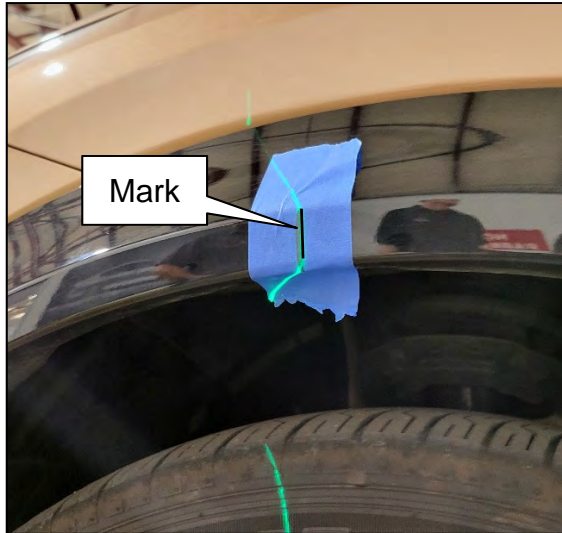
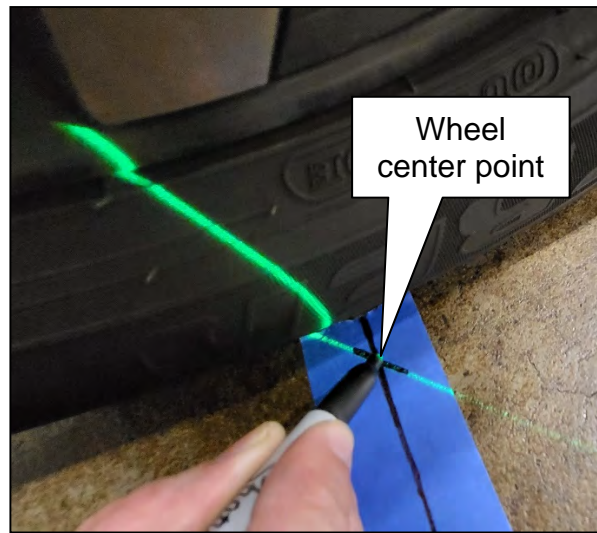

Figure 23
Figure 24
20. Line up the vertical laser line to the mark on the wheel arch (Figure 23), and then mark the floor with a cross-mark. This is the center point of the wheel and tire assembly (Figure 24).
- The vertical laser line must line up with the line on the wheel arch, not the wheel center cap (Figure 23).